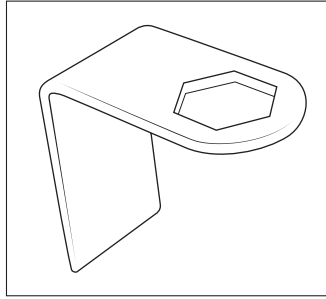

Figure 25
- Support axle and remove shocks. AEV-supplied tool (fig. 25) will help for holding nut on top inside shock mounts. Retain hardware, discard shocks.